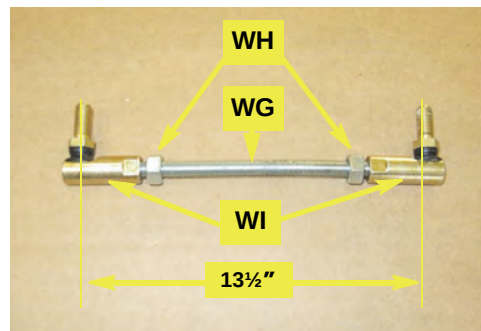

Figure 1d: Assembled threaded link rod
- Screw nuts **WH** then swivel rod ends **WI** onto the WAS link rod **WG** to achieve a center-to-center stud measurement of 13½" (Figure 1d). Leave **WH** loose until you complete linkage adjustment at step 2f.